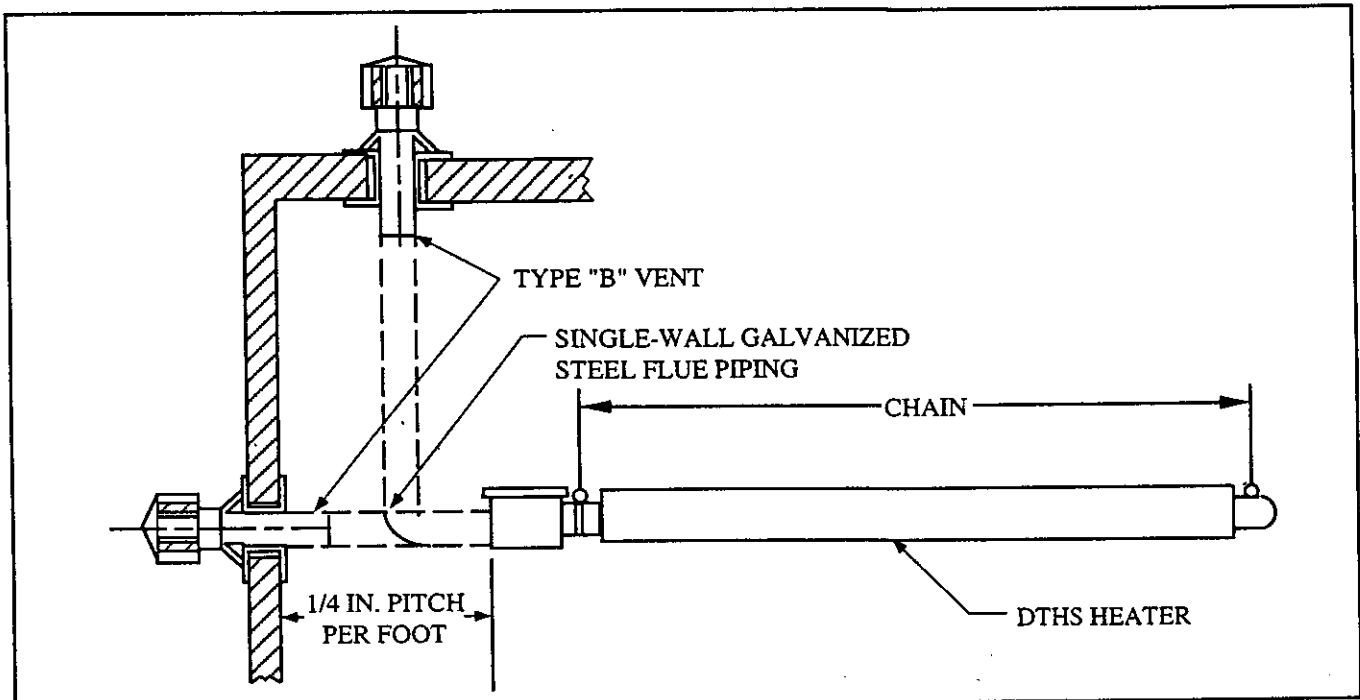

Figure 1-16
- All vent pipes must be sealed with high temperature sealant and (3) #8 sheet metal screws.
- Horizontal flues should be pitched down toward outlet, 1/4 in. per ft of the vent length, to prevent rain from entering the heater (see Figure 1-16). **Do not pitch heater.**